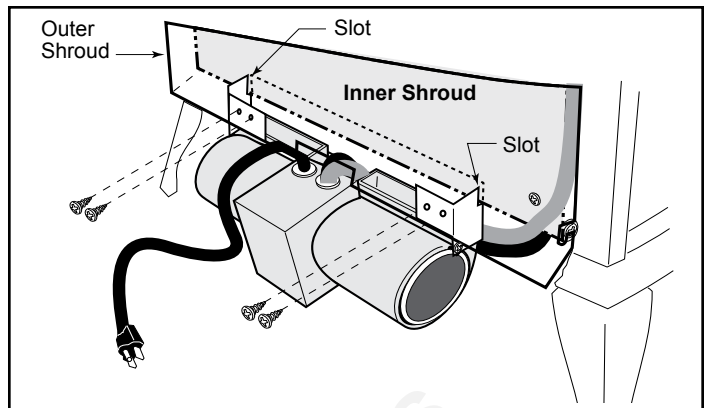

Figure 71 - Position the fan to engage the inner shroud with the fan bracket slots and secure with sheet metal screws.
6. Position the fan assembly so the ducts slide between the inner and outer shroud. The inner shroud should engage with the two slots in the ends of the bracket so the bracket and shroud are interlocked. (Figure 71) Secure the bracket with the four sheet metal screws provided in the finish bag.